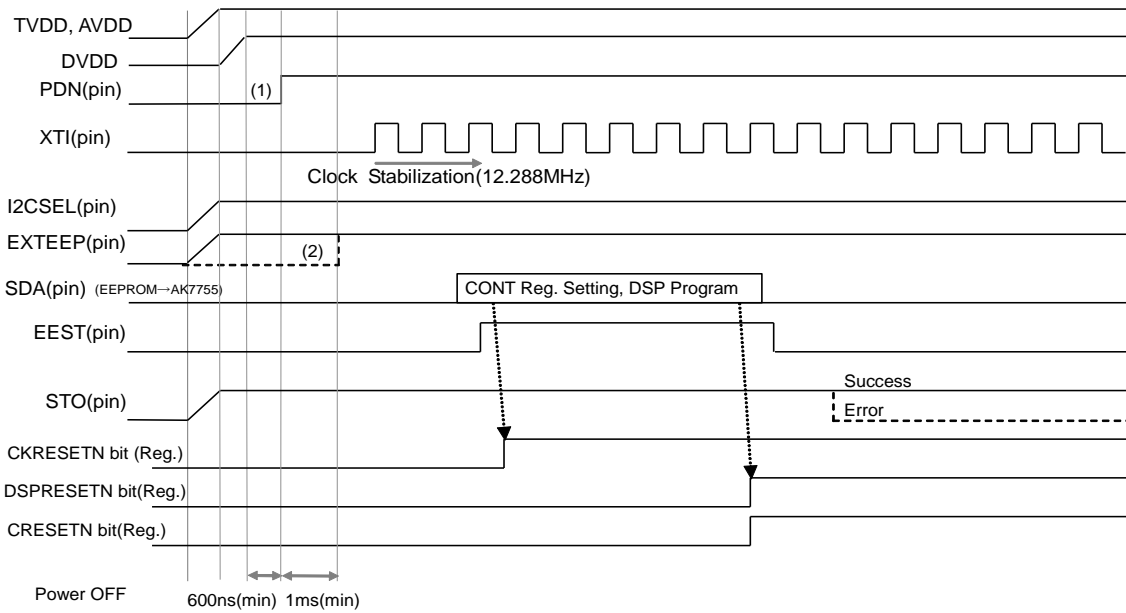
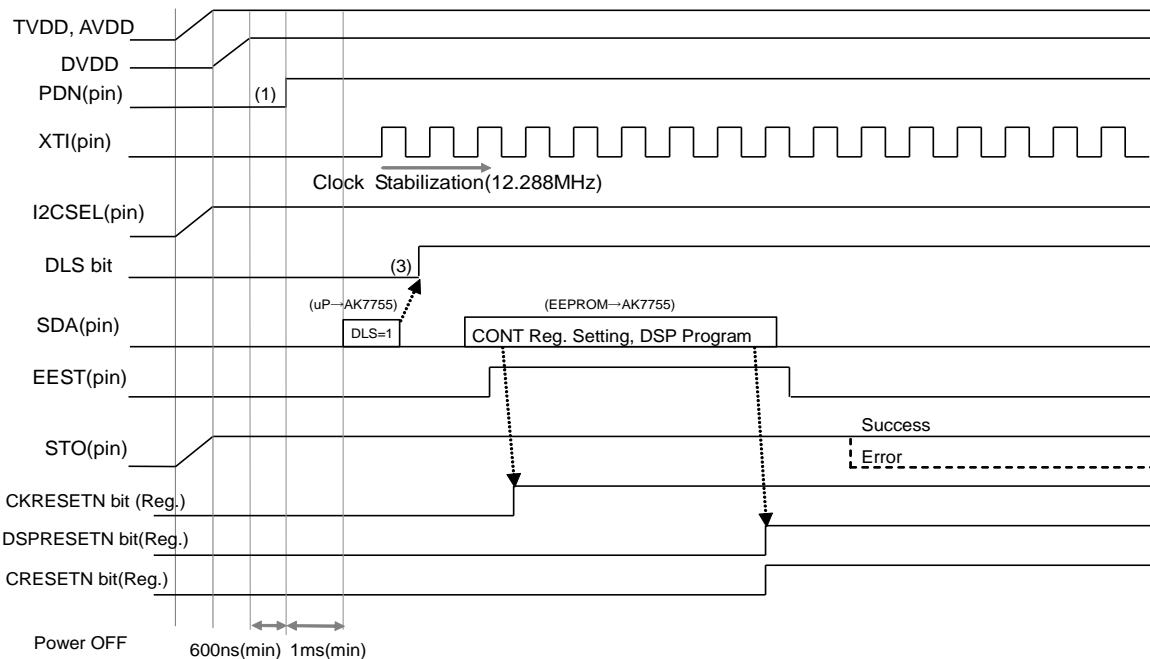

Figure 26. Power-up Sequence 3
Figure 27. Power-up Sequence 4
When downloading programs from an EEPROM, I²C interface (I2CSEL pin = “H”) and a 12.288MHz clock input to the XTI pin are necessary, or a 12.288MHz crystal oscillator must be connected to the XTI and XTO pins. In this case, only CKM mode 0 and 2 (CONT00: D6-D4) are available. The AK7755 should be powered up when the PDN pin = “L”. AVDD and TVDD must be powered up first before DVDD when DVDD is supplied externally (LDOE pin = “L”). In this case, the power-up sequence between AVDD and TVDD is not critical. Set the PDN pin to “H” to start the power supply circuits for REF (analog reference voltage source) generator and internal digital circuit (only when the LDOE pin = “H”) after all power supplies are fed. There are three ways to start downloading control register settings, DSP programs and Coefficient RAM: by PDN pin (1) (Figure 26), by EXTEEP pin (2) (Figure 26) and by DLS bit (3) (Figure 27).